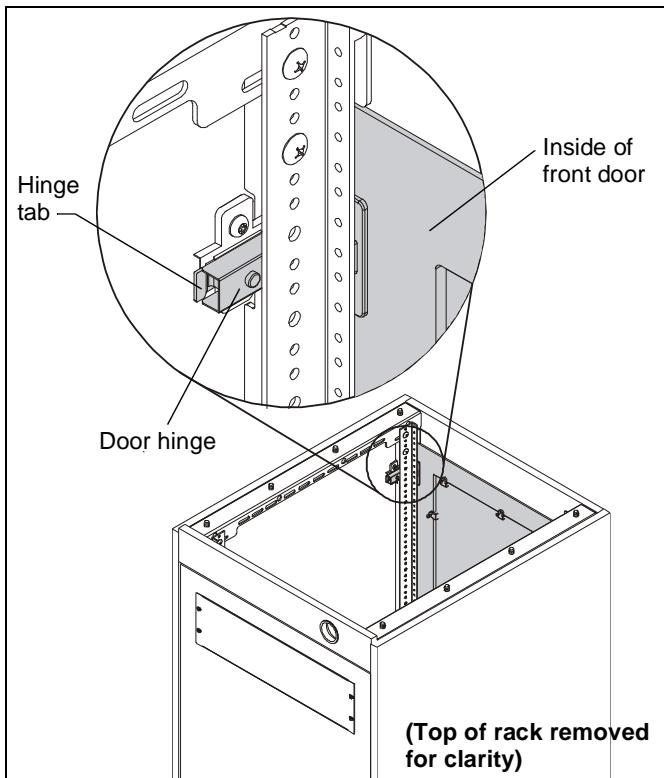

Figure 4
1. Open door to expose hinge at top and bottom of door. (See Figure 4)